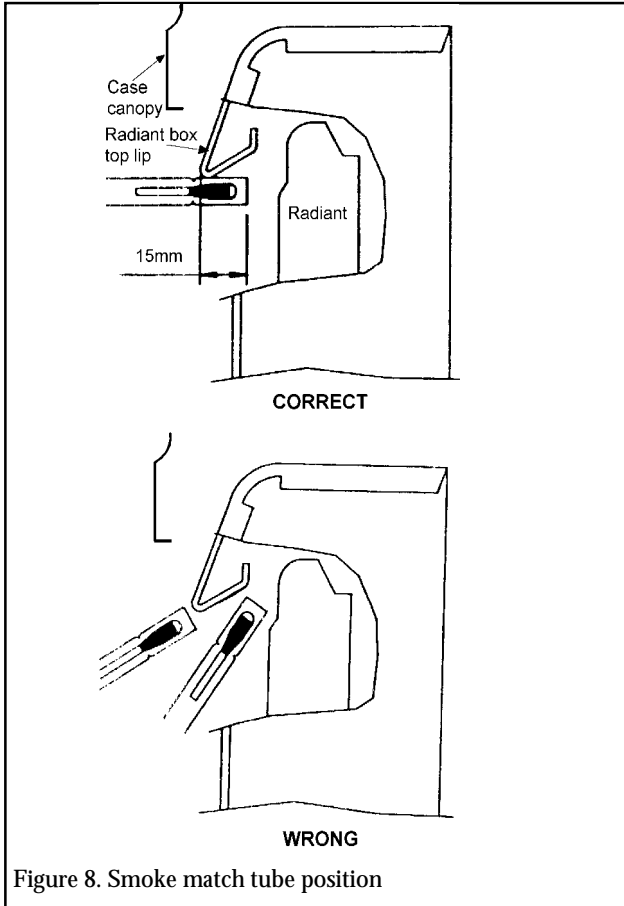

Figure 8. Smoke match tube position
- 5.2.4** Place the smoke match tube horizontally under the top lip of the radiant box and at least 50mm away from the sides of the radiant box. See figure 8. The installation is satisfactory if the smoke is drawn into the appliance. If the smoke is not drawn into the appliance, leave the appliance alight at the maximum setting for a further ten minutes and then repeat the test. If the smoke is still not drawn into the appliance, inspect the sealing of the closure plate. If the sealing is satisfactory but the appliance is installed with the flue restrictor (see section 3.3.8), remove the restrictor, reseal the appliance and retest. If smoke is still not drawn into the appliance ***Disconnect the appliance and seek expert advice.***